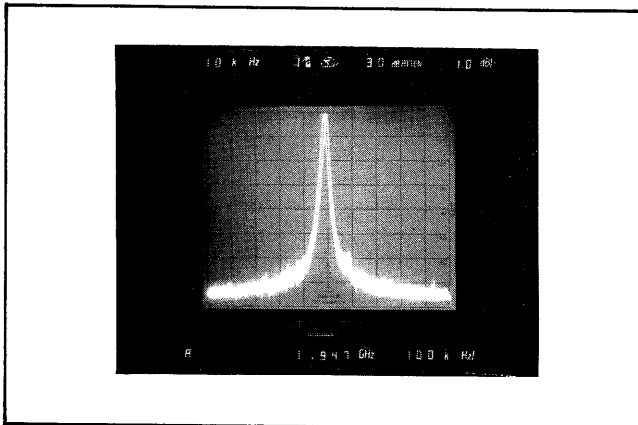

Figure 4-25. Noise Sidebands (≤ 18 GHz)
- (d) Adjust **TUNING** to center the sweeper's fundamental frequency on the **CENTER FREQUENCY** graticule line, as shown in Figure 4-25.